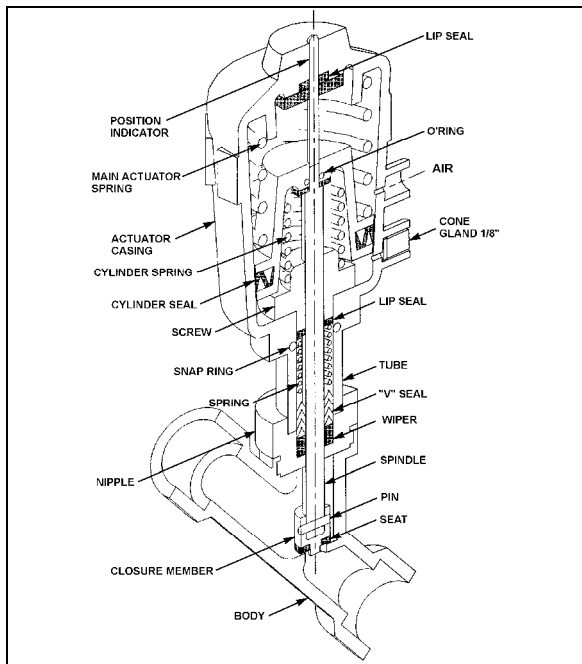

FIGURE 53: PASSENGER'S UNIT PNEUMATIC HOT WATER VALVE 22241
2. The water valve need not be removed from the line. Unscrew nipple, the actuator casing, tube, spindle and closure member can be removed (Figure 53).
2. Tighten the nipple in place in the body cavity as per Figure 53. Fasten pilot solenoid valve to the pneumatic water valve. Reconnect air supply pressure and electrical current to the pilot solenoid valve.